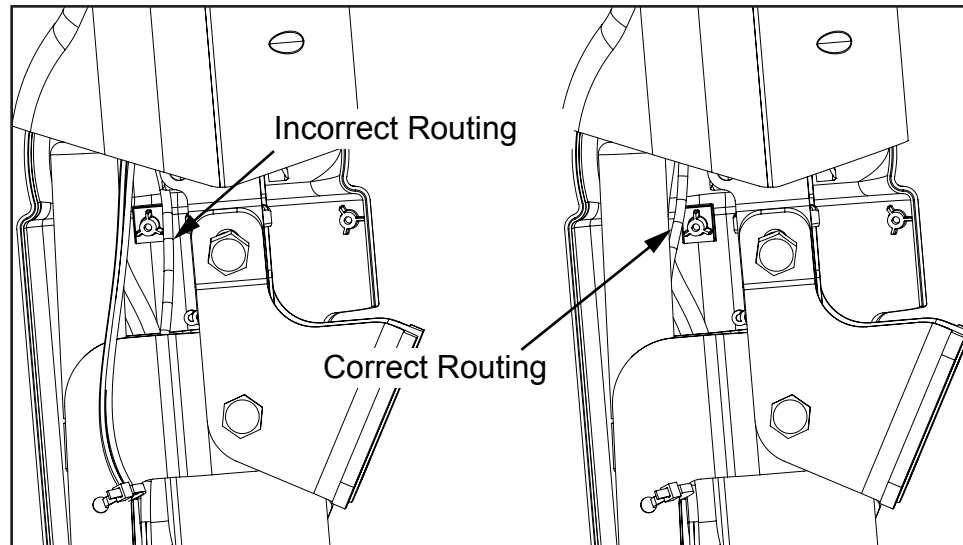

Figure 5
6. Verify that the tilt column cable is installed correctly. The cable must be secured at the shaft housing and in front of the boss on the cover panel, **NOT BEHIND**. Verify the routing of the cable does not allow the cable to come in contact with the yoke (see Figure 5).